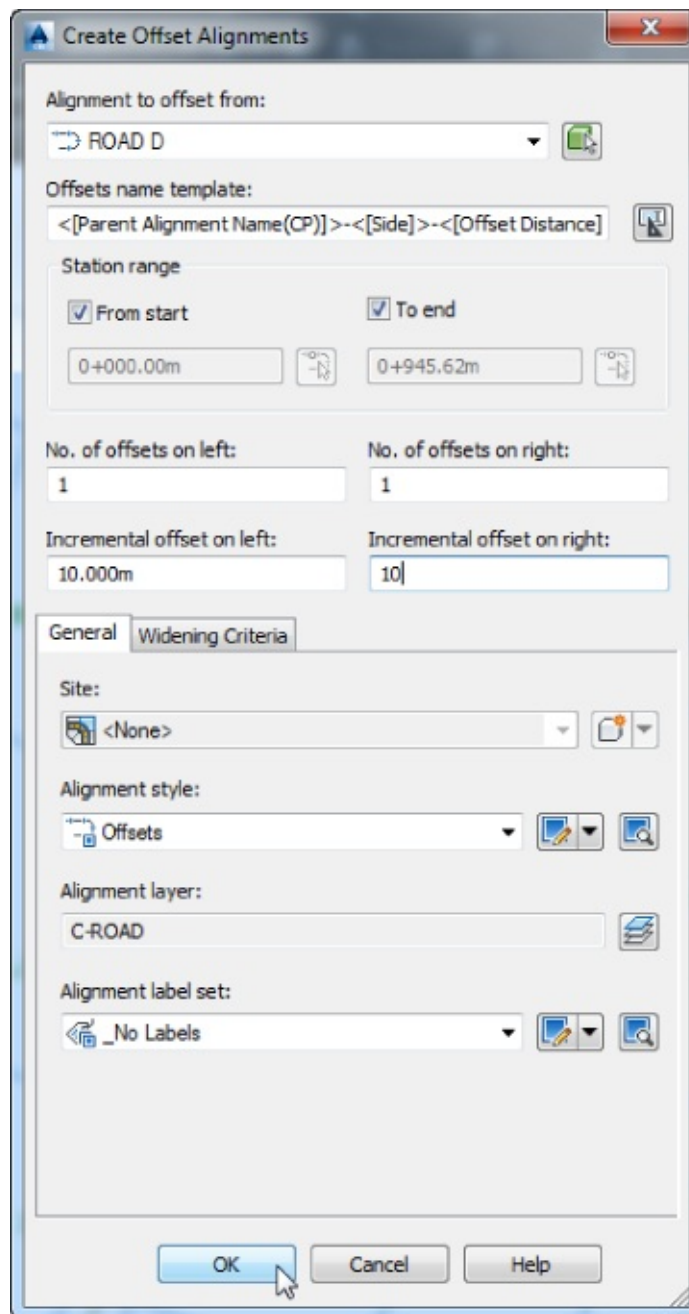

Figure 6.6 The Create Offset Alignments dialog
Alignments dialog shown in Figure 6.6.
6. Verify that Alignment Label Set is set to **_No Labels**, and click OK to accept the rest of the defaults shown in Figure 6.6.